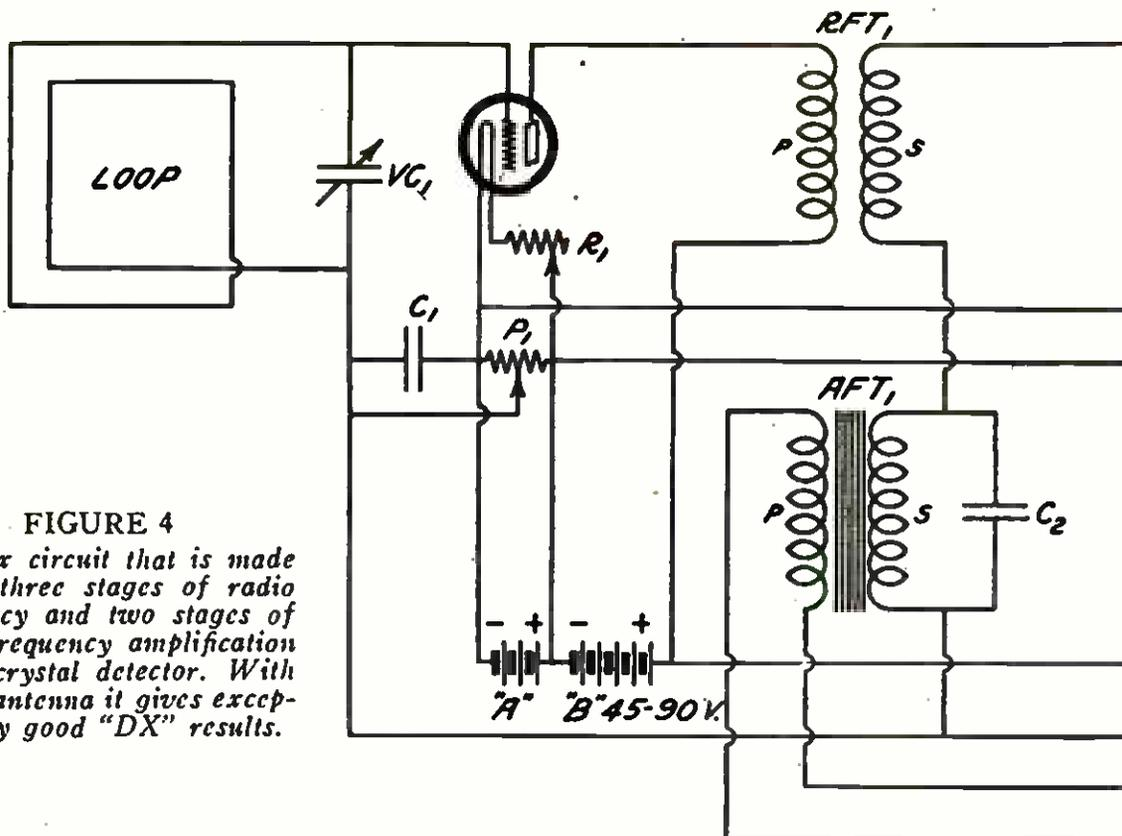

FIGURE 4
**ANSWER:** A diagram for a three-tube and crystal detector circuit is shown in Figure 4. The parts for the set are: